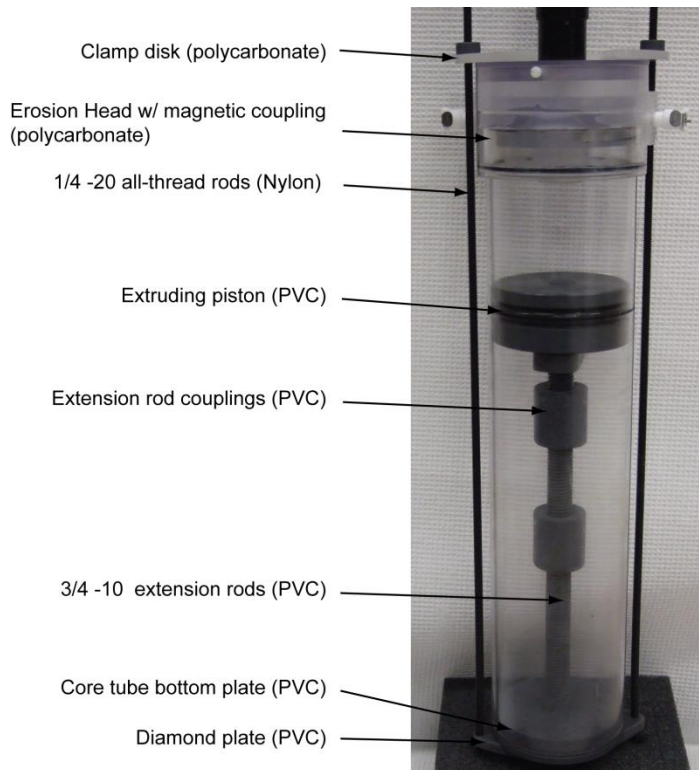

Figure 2.3.1- Photo of core assembly with UGEMS erosion head clamped to 10 cm core tube.
- 2.3.1 Core selection and extrusion.** Try to select cores where the sediment surface is as even as possible. Carefully extrude cores using the pistons provided. It is helpful to apply silicone grease liberally to piston o-ring prior to pushing into the bottom of the core. Extrude the sediment surface to an average distance of 10 cm from the top of the core tube. Tighten nut on the piston such that the o-ring makes a seal with core tube. Install $\frac{3}{4}$ " threaded PVC rod extensions as needed, and thread the bottom plate until flange just touches the bottom of core tube. Install the diamond plate on $\frac{3}{4}$ " threaded PVC rod that is protruding below bottom plate (see fig 2.3.1).
2.3.5 Clamp erosion head/motor to core. Place clear clamp disk plate over erosion head and use the long 1/4-20 nylon all-thread rods to attach to diamond plate at the bottom of the core. Tighten using PVC nuts such that erosion head is clamped securely to core (see fig 2.3.1).